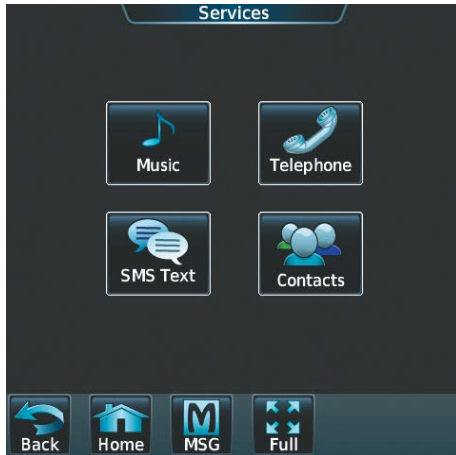

Figure 8-83 SMS Text Services Selection
- 1) From the **Home** Screen, touch **Services** > **SMS Text** (Figure 8-83).